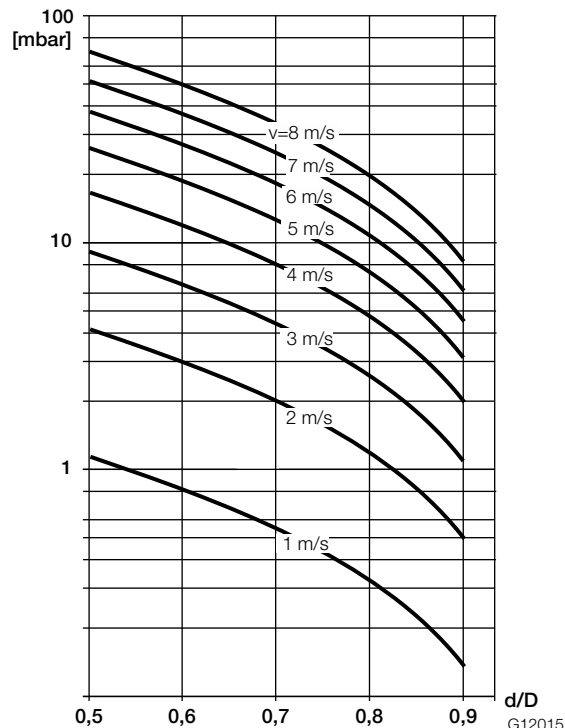

Fig. 17: Nomograph for pressure drop calculations for flange transition piece with $\alpha/2 = 8^\circ$
2. Determine the flow velocity based on the flow range nomograph (Fig. 17).
3. Read the pressure drop on the Y-axis in Fig. 17.